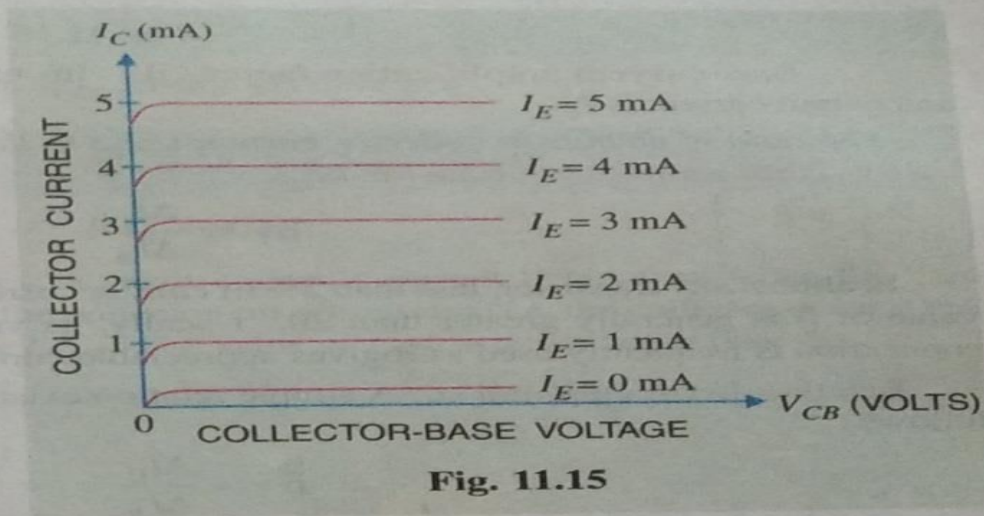

Fig. 11.15
**2. Output characteristic.** It is the curve between collector current  $I_C$  and collector-base voltage  $V_{CB}$  at constant emitter current  $I_E$ . Generally, collector current is taken along y-axis and collector-base voltage along x-axis. Fig. 11.15 shows the output characteristics of a typical transistor in *CB* arrangement.